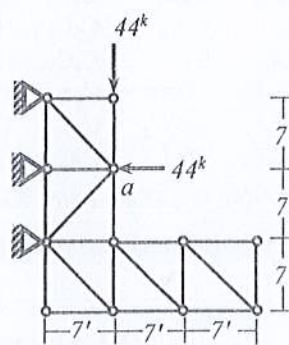

Fig. 3
- For the truss loaded as shown in Fig. 3